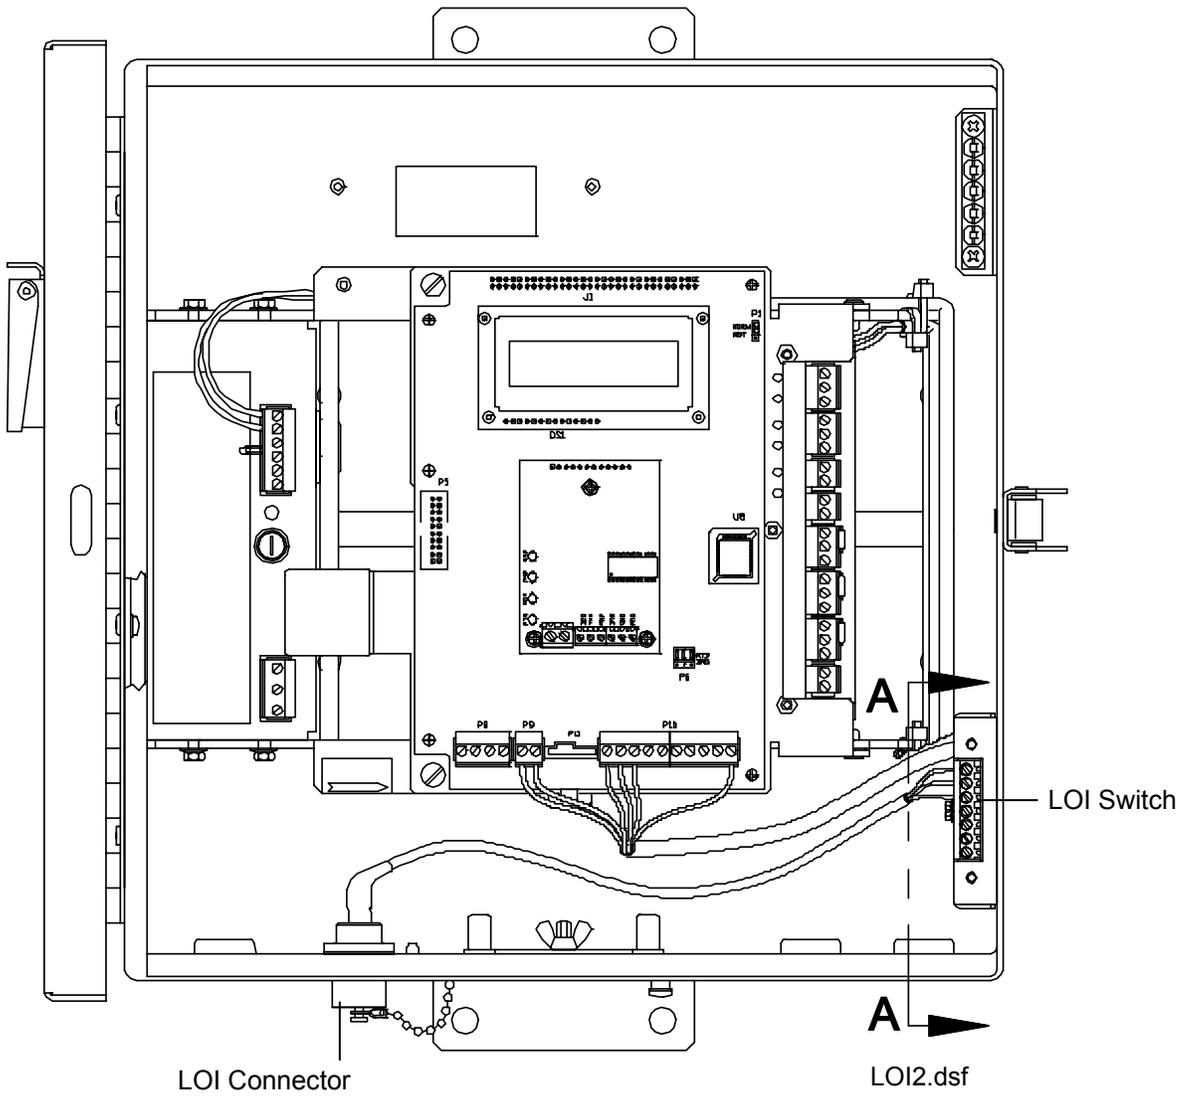
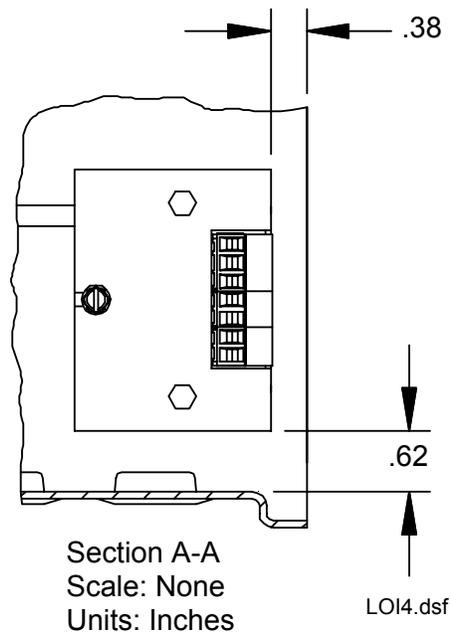
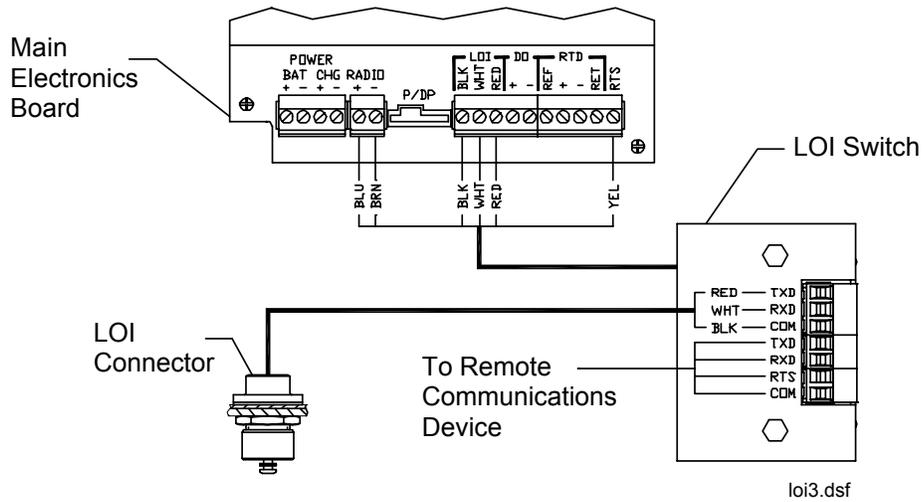

Figure 7-1. Location for LOI Switch
Figure 7-2. LOI Switch Mounting (Detail of Section A-A from Figure 7-1)
Figure 7-4. LOI Switch Wiring
Use the following steps to install the LOI switch. Refer to Figure 7-1 through Figure 7-4.
4. Measure and mark the LOI switch position inside of the enclosure as shown in Figure 7-1 and Figure 7-2.
7. Connect all wiring as in Figure 7-4.